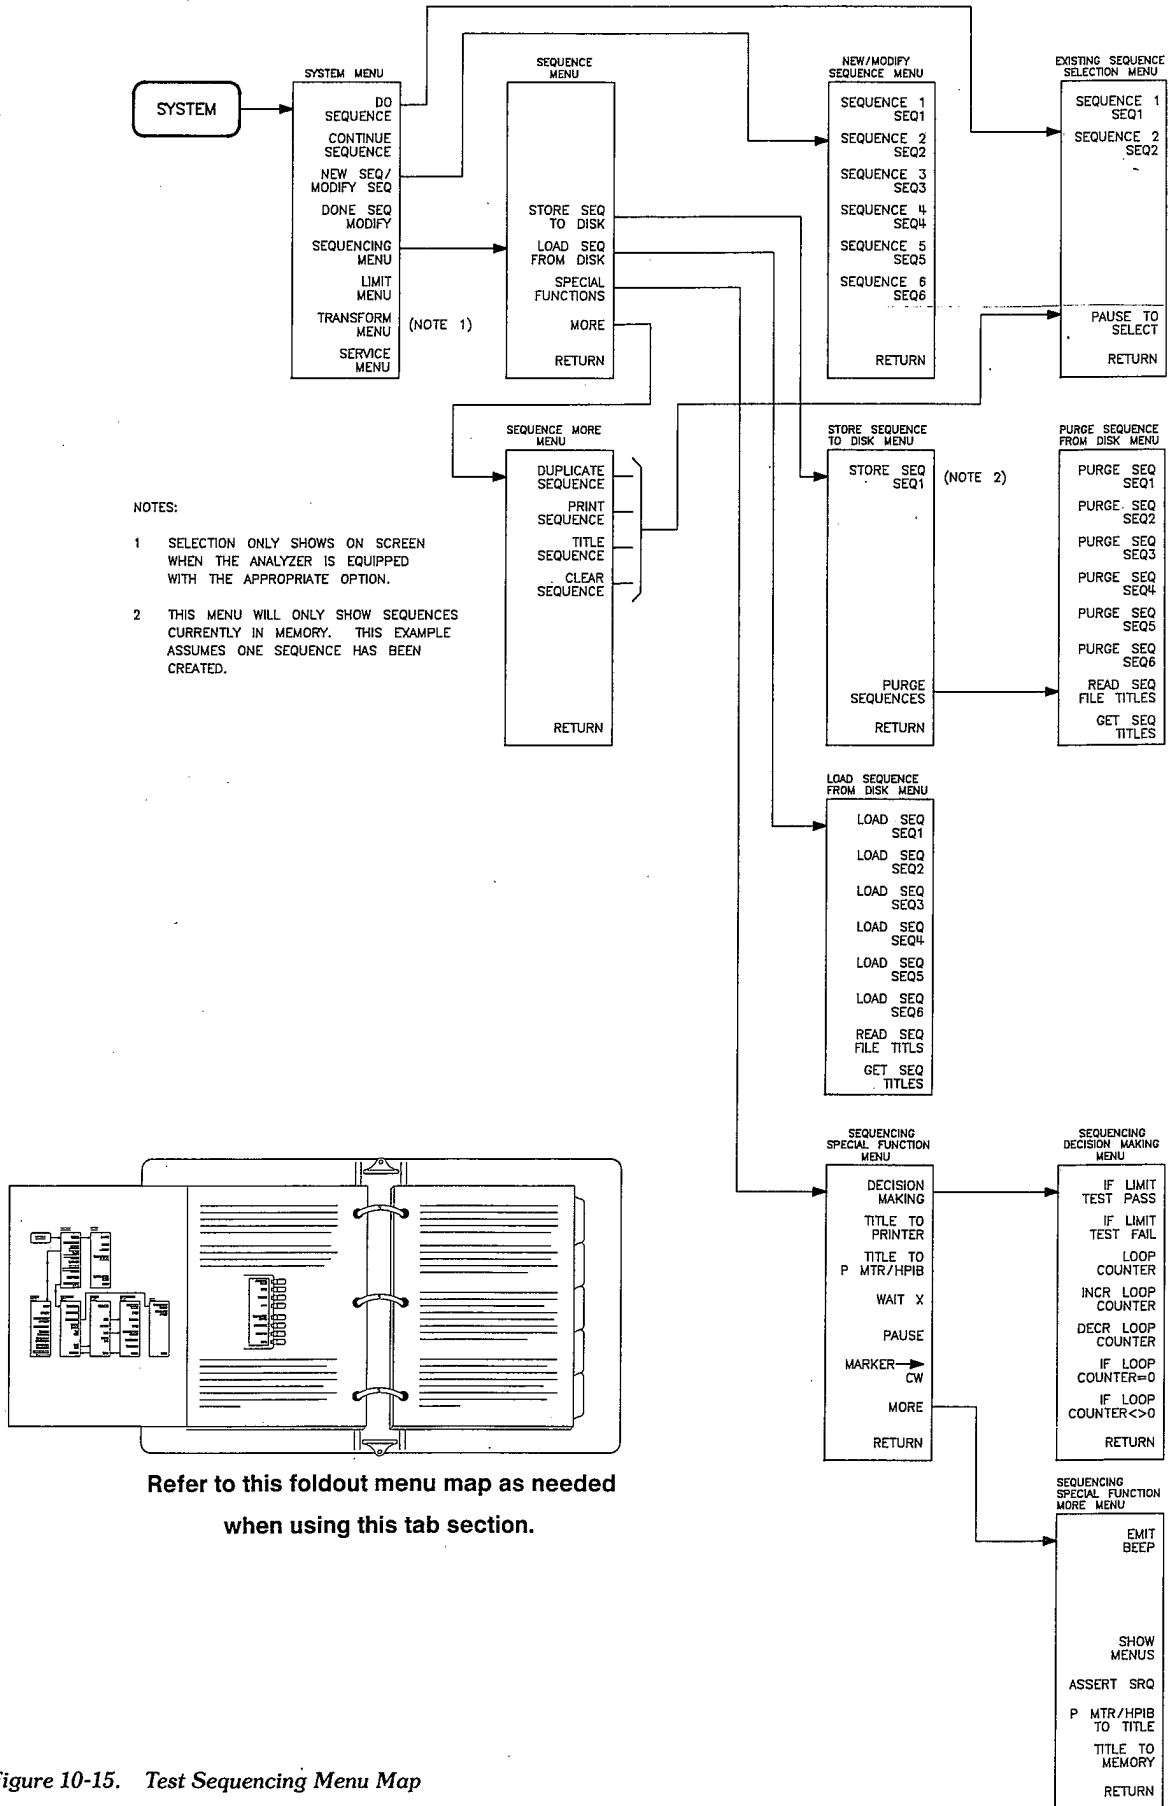

Figure 10-15. Test Sequencing Menu Map
**[SYSTEM] KEY** (MENSYST). Pressing this key presents the system menu. This menu is shown in the upper-left corner of (fold-out) Figure 10-15.